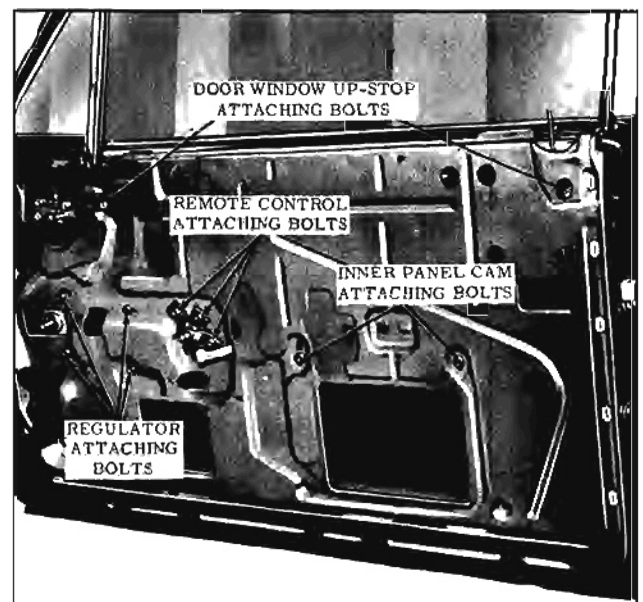

Fig. 16-38 Front Door Hardware (Typical Holiday)
2. Remove bolts securing door inner panel cam assembly and disengage cam from regulator balance arm and remove cam from door. (Fig. 16-38)
2. Remove remote control attaching screws and disengage remote control from connecting rod. (Fig. 16-38)